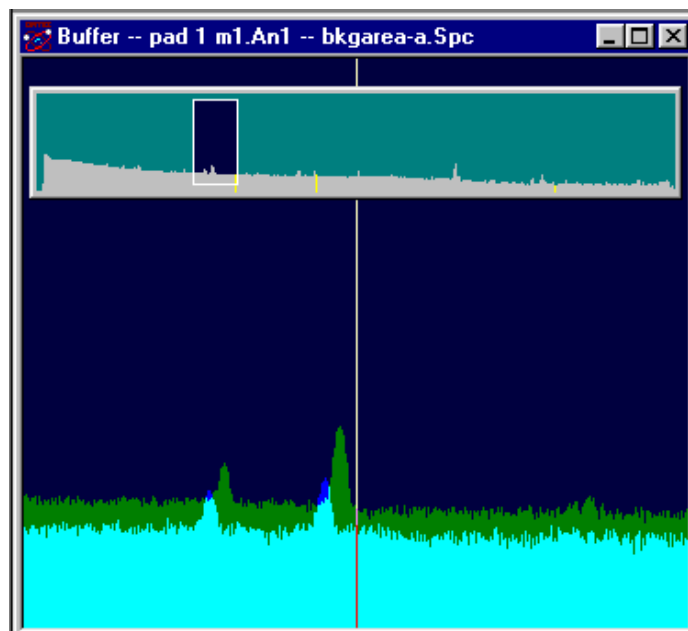
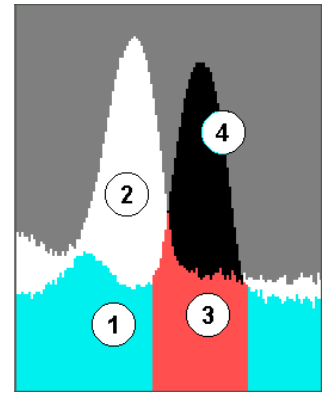

Figure 18. Compare Mode Screen.
Figure 19. Spectrum Colors in Compare Mode.
This function displays a spectrum from disk along with the active spectrum so the two can be visually compared. When you select **Compare...**, a standard file-recall dialog box opens. When you select the desired spectrum file, the active spectrum window shows both spectra, as illustrated in Fig. 18.
Figure 19 is a detailed view of the compare similar to that in Fig. 18. In this illustration, the starting spectrum is displayed in color (1), the Compare spectrum is shown in color (2), the starting spectrum ROIs are marked in color (3), and the portion of the starting spectrum that exceeds the Compare spectrum is indicated by color (4). These colors (called **Foreground**, **Compare**, **ROI**, and **Composite**, respectively) are chosen on the **Color Preferences** dialog discussed in Section 3.9.8.3.